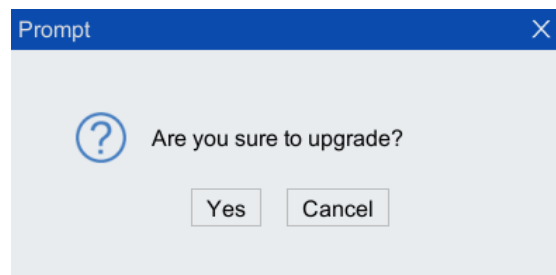

Figure 8-51 "Are you sure to upgrade?" dialog box
Step3.After "Are you sure to upgrade?" dialog box in Figure 8-51 pops up click <Yes> button to pop up the upgrade progress bar. The CCB file upgrade will take about 1 min.